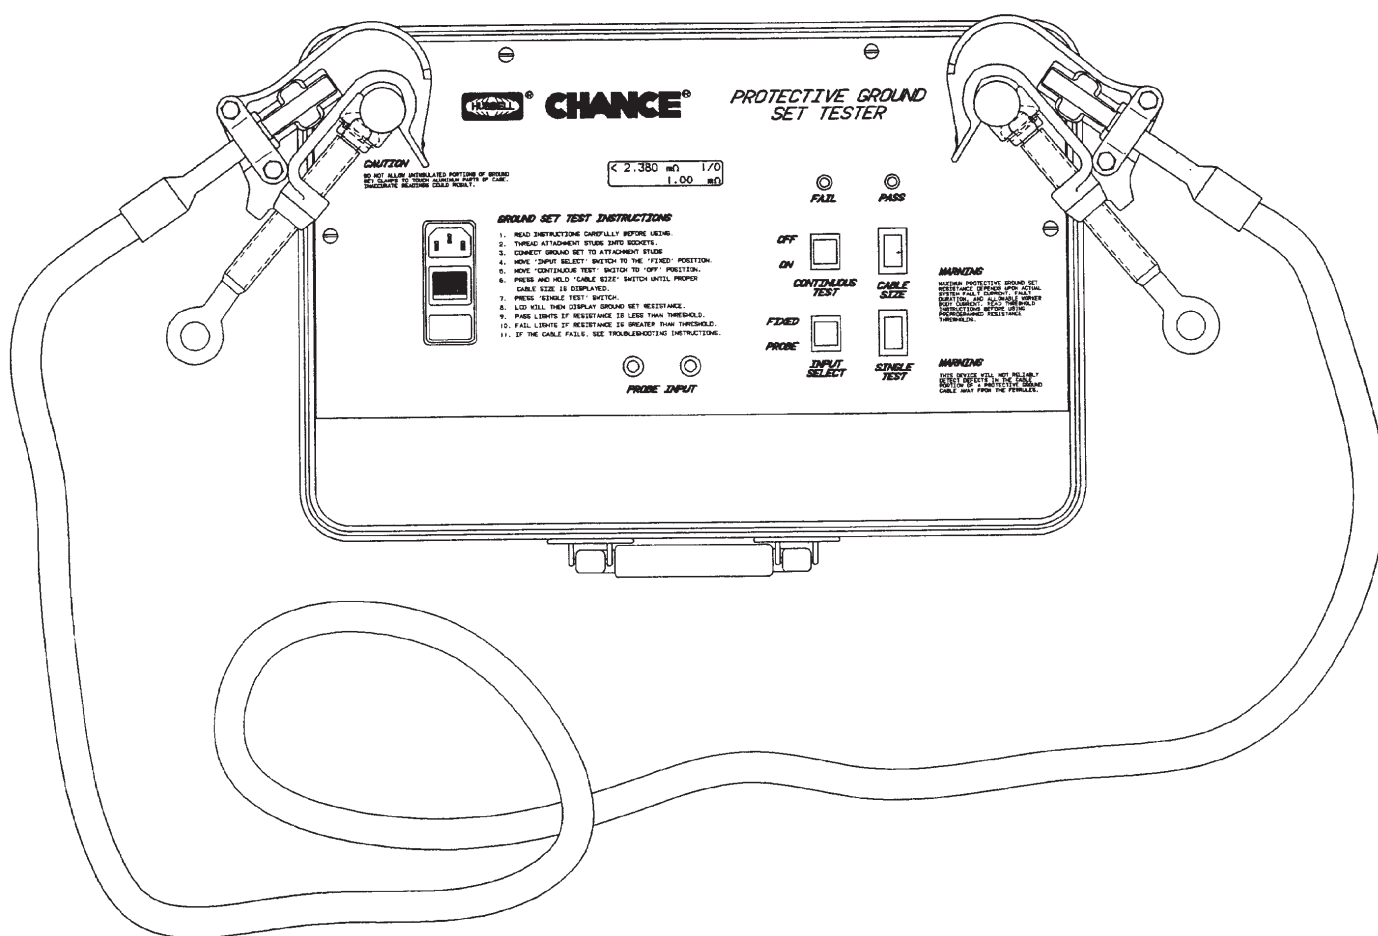

Figure 3: Ground Set Testing Setup
Figure 3 shows the test setup required to test a protective ground set. The protective ground set under test must always be connected between the fixed connection connections regardless of the mode of testing. The ground set carries the test current from one fixed input to the other during testing. Without the ground set, the resulting open circuit prevents the resistance measurement. If the ground set is left unconnected and the 'INPUT SELECT' is in the 'FIXED' position, the display will read 'OVER RANGE' after a test. If the ground set is left unconnected and the 'INPUT SELECT' is in the 'PROBE' position, the display will be erratic. The erratic display is unpredictable and does not indicate resistance.
3. Securely connect the Grounding Set to be tested to the attachment studs. A low resistance connection must be maintained while testing the ground set. (Figure 3 shows typical test setup.)
3. Connect the Grounding Set to be tested to the attachment studs. A low resistance connection must be maintained while testing the ground set. Figure 3 shows typical test setup.